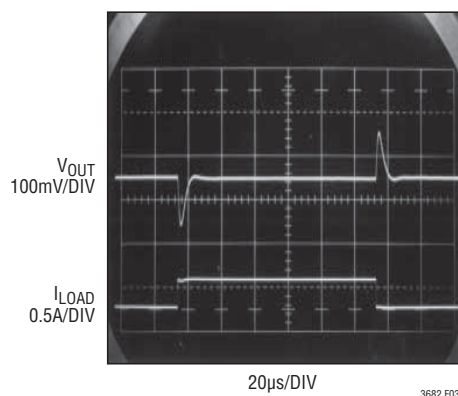

**Figure 2. Model for Loop Response**
compensation is provided by the components tied to the VC pin, as shown in Figure 2. Generally a capacitor (CC) and a resistor (RC) in series to ground are used. In addition, there may be a lower value capacitor in parallel. This capacitor (CF) is used to filter noise at the switching frequency, and is required only if a phase-lead capacitor (CPL) is used or if the output capacitor has high ESR.
Loop compensation determines the stability and transient performance. Optimizing the design of the compensation network depends on the application and type of output capacitor. A practical approach is to start with one of the circuits in this data sheet that is similar to your application and tune the compensation network to optimize the performance. Stability should then be checked across all operating conditions, including load current, input voltage and temperature. The LT1375 data sheet contains a more thorough discussion of loop compensation and describes how to test the stability using a transient load. Figure 2 shows an equivalent circuit for the LT3682 control loop. The error amplifier is a transconductance amplifier with finite output impedance. The power section, consisting of the modulator, power switch and inductor, is modeled as a transconductance amplifier generating an output current proportional to the voltage at the VC pin. Note that the output capacitor integrates this current, and that the